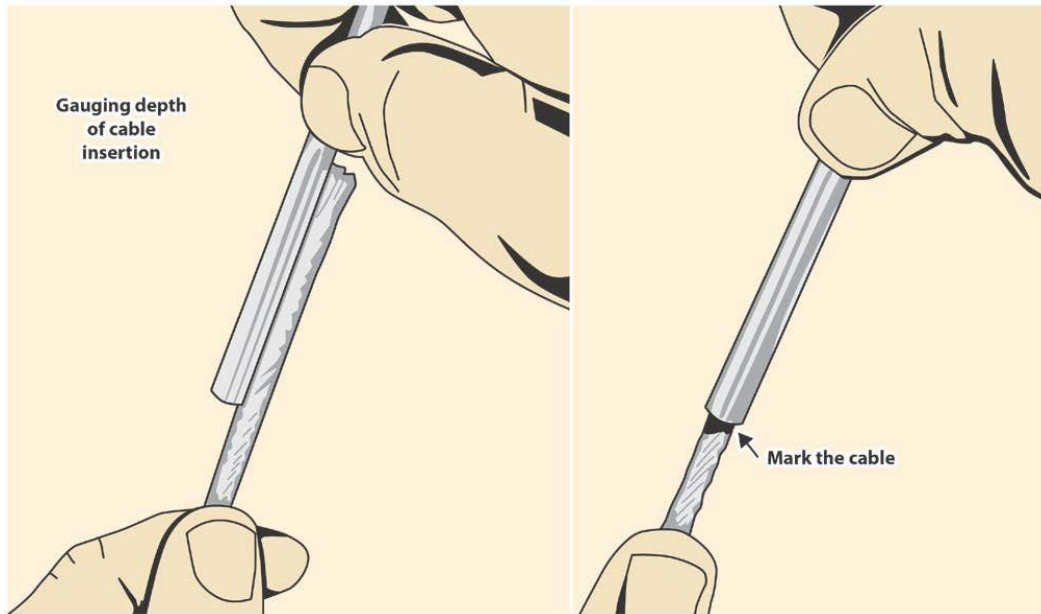

Fig 6
- b) Using a black marker, mark the cable to provide a visual reference that the cable remains fully seated down inside the fitting and does not slip out (Fig. 6).